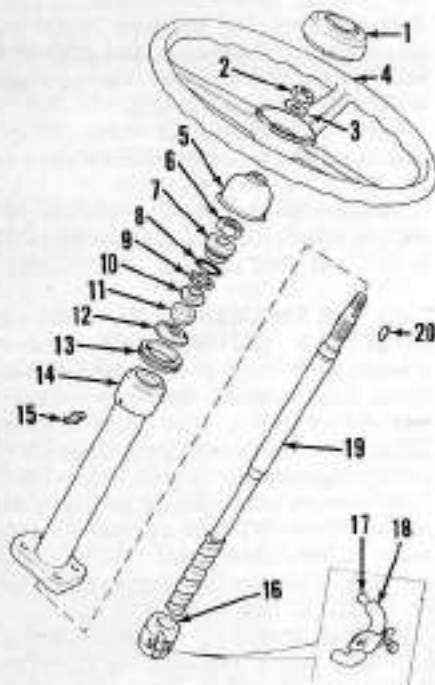
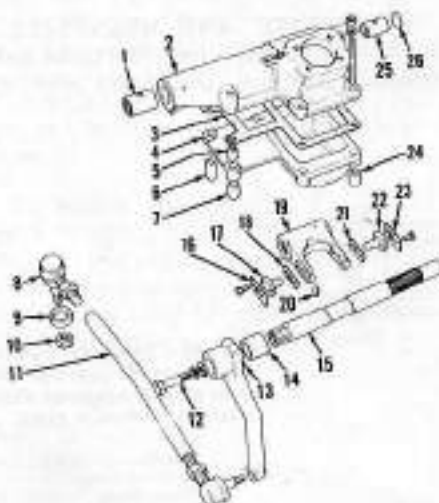
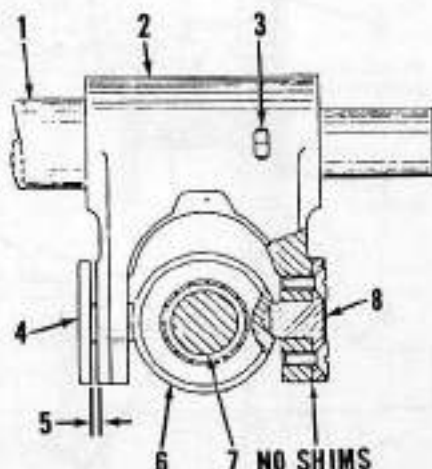

Fig. 33—Exploded view of steering column and related parts for 1190 models with manual steering.
Fig. 34—Exploded view of steering box and its related parts used on 1190 models with manual steering.
Fig. 35—View showing method of selecting shims for correct ball nut preload. Refer to paragraph 62 for procedure.
59. To remove steering gear unit, remove steering wheel (4-Fig. 33) and dust seal (5). Disconnect controls and wiring to instrument panel. Remove drop arm (13-Fig. 34) and unbolt and remove instrument panel as a unit. Unbolt and remove steering gear assembly from transmission noting spacer (6, 7 and 24-Fig. 34) placement.
60. **DISASSEMBLY.** With steering gear and steering wheel removed, remove locknut (6-Fig. 33) and unscrew adjustable bearing cone (7). Remove the twelve loose bearing balls (9). Remove both ball nut pegs (17 and 22-Fig. 34) and shims (18 and 21), then withdraw steering shaft (19-Fig. 33)
and ball nut assembly (16) from bottom of unit. Lower bearing race (10) and spherical seat (11) can now be removed from steering column (14) and rubber baffle (12) from steering shaft (19). Unscrew ball nut assembly (16) from steering shaft (19) and retrieve the 28 loose steel balls (17). Remove locating screw (20-Fig. 34) and withdraw cross-shaft (15).
If cross-shaft bushings (1 and 25-Fig. 34) are to be renewed, note size and location before removal for proper reinstallation. Lubrication holes in bushings (1 and 25) and gear box (2) must be aligned and cross-shaft (15) must turn freely.
61. **REASSEMBLY.** Remove transfer tube (18-Fig. 33) and place ball nut (16) over ball track on lower end of steering shaft (19). Insert steel balls (17) into ball nut (16) until full, place remaining balls in transfer tube (18) with grease and fit tube (18) to ball nut (16). Place rubber baffle (12) in groove on steering shaft (19) and insert up through housing.
Position rocker arm (19-Fig. 34) in steering box (2) with stop down. Reinstall cross-shaft (15) and secure with locating screw (20).
62. **BALL NUT PEG PRELOAD.** Install one ball nut peg (8-Fig. 35)
MINUS shims (18 and 21-Fig. 34) and tighten the two cap screws securely. Install second ball nut peg (4-Fig. 35) and tighten the two cap screws evenly only until inner end of peg (4) causes ball nut (6) to lightly bind. Using a feeler gage, measure gap between ball nut peg (4) and rocker arm (2). See 5-Fig. 35.
Shims (18 and 21-Fig. 34) to be used in final assembly should be 0.0254-0.0762 mm (0.001-0.003 inch) LESS than measured gap (5-Fig. 35). Divide shims (18 and 21-Fig. 34) as equally as possible between the two ball nut pegs (17 and 22) for installation and secure bolts with tab washers (16 and 23).
63. **STEERING SHAFT END PLAY.** Insert spherical seat (11-Fig. 33) on steering shaft (19) with flat face down, then install lower race (10) with round face in spherical seat (11). Drop in the twelve loose bearing balls (9). Install "O" ring (8) in groove of adjustable bearing cone (7) and thread onto steering shaft (19) until all play is removed from bearing assembly. Shaft (19) should still turn freely. Back off adjustable bearing cone (7) 1/8-turn to provide 0.000-0.076 mm (0.000-0.003 inch) end play of steering shaft. Hold adjustable bearing cone (7) in position and install locknut (6) with recessed side against adjustable bearing cone (7) and tighten to 163 N·m (120 ft.-lbs.) torque.